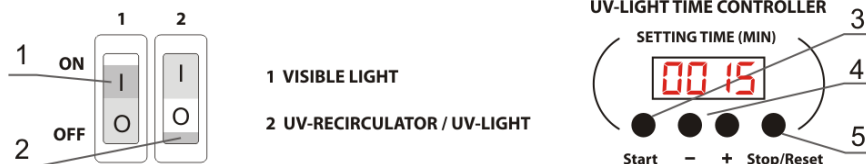
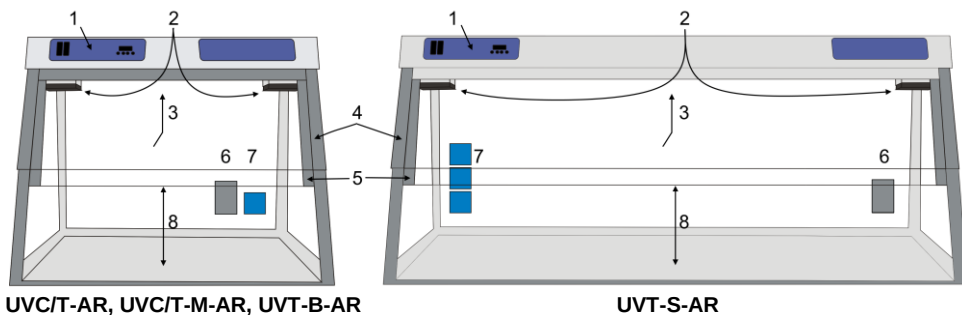

Figure 2. Control panel
Figure 3. DNA/RNA UV box, frontal view:
5.2.1 Turn ON the switch **2** (fig. 2/2) on the control panel (fig. 3/1). This switches on the UV recirculator inside the unit (fig. 3/2) and the open UV-lamp exposition timer. The UV recirculator will operate all the time until the switch **2** is turned OFF.
- 5.2.2 Use the timer **+** and **-** keys (fig. 2/4) to increase and decrease the time (SETTING TIME) of direct UV light exposition of the working place, with 1 min increment. Pressing down and holding the button for more than 2 seconds increases the increment. Recommended time of exposition is two sessions of 30 minutes, once after switching on the cabinet, once before operations inside.
- 5.2.3 Press the **Start** key (fig. 2/3), the UV lamp will be turned on automatically and the timer will start counting the exposition time. Timer indicator shows actual time: until 1 hour - in minutes and seconds (mm:ss), after 1 hour - in hours and minutes (hh:mm). After reaching the set time the timer will automatically turn off the open UV lamp.
- 5.2.4 The open UV lamp can be switched off by pressing the **Stop/Reset** key (fig. 2/5). The set time of exposition will be saved in the memory. The set time will not be saved after the complete turning off the unit.
- 5.3.1 Turn ON switch **1** (fig. 2/1) for lighting of the working place. This turns ON the luminescent (visible light) lamp inside the cabinet (fig. 3/3).
- 5.3.2 Lift the front protective screen (fig. 3/5) up for work in the cabinet. Models have different maximum opening heights (fig. 3/8), as listed in the **Specifications** section, and may be raised to the following positions:
Do not block the recirculator openings (fig. 3/2)!
- 5.3.3 To use electric devices inside the cabinet, pull their power cable through the inlet and close the flap (fig. 3/6) or connect the power cable to a built-in mains socket (fig. 3/7, models with mains socket).
- 8.4 **Dust filter replacement.** The dust filters (fig. 3/2) on either end of the UV recirculator with the hidden UV lamp should be checked monthly and cleaned or replaced when they become clogged. To check, replace or clean the filters, simply unclip the covers, fit a new filter if necessary or rinse current filters in water, dry and place back. Clip covers back in place.